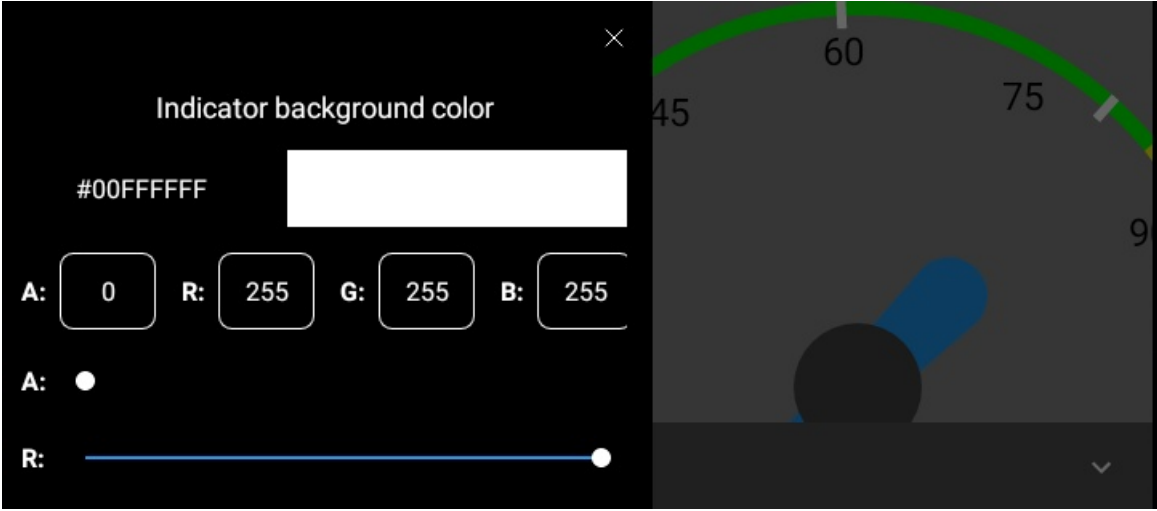

fig.4.19. Background colour setup
- **Background** setting changes the background colour (fig.4.19).